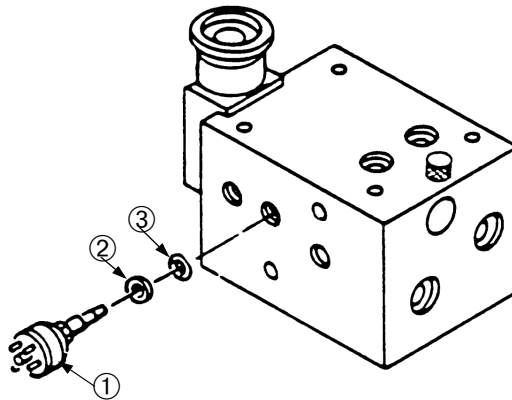

Figure 4-10 TC1 Gauge in the MVBA
Figure 4-10 shows the valve block removed from the system.
3. Grasp the plug and remove the plug and the thermocouple gauge ① from the valve block (Figure 4-10).
5. Remove the O-ring ③ and backing ring ② from the thermocouple gauge (Figure 4-10).